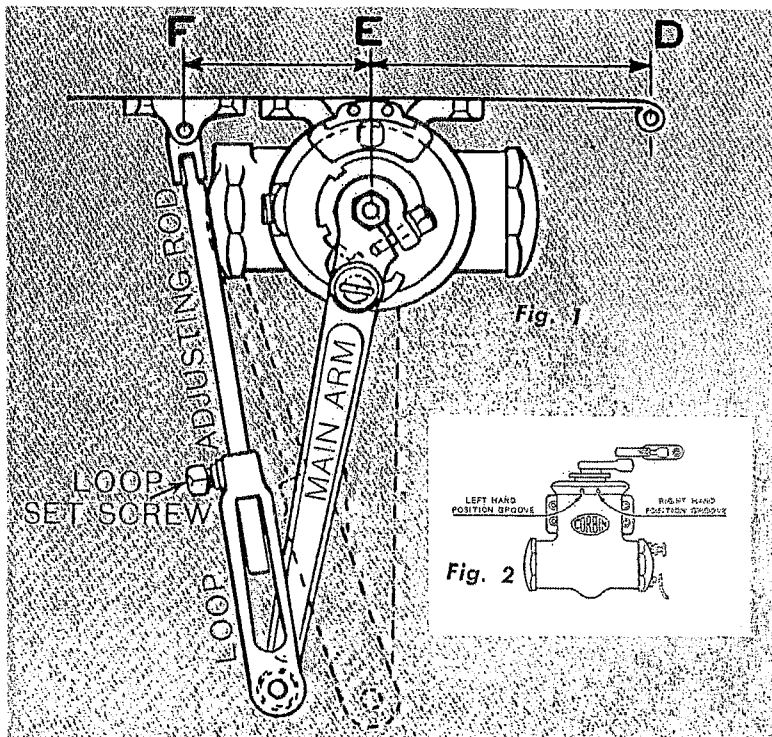
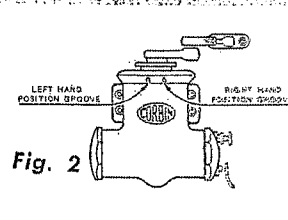

Fig. 1
Fig. 2
It is extremely important that door closers be applied correctly. When adjusting arms, be sure they form a perfect V with door as shown by solid lines (Fig. 1). This is accomplished by inserting Adjusting Arm into Loop and centering Main Arm directly over Proper Position Groove on cover (Fig. 2). *Never* set Main Arm at right angle with door or Adjusting Arm at right angle with frame as shown by dotted lines.
On closers with parallel arms, be sure they form a perfect V with casing (Fig. 1). Always center Main Arm over Proper Position Groove on cover (Fig. 2). Tighten Set Screw securely.
If the door is required to close more slowly, turn knurled Screw (A) Fig. 1 (at end of valve) clockwise. This is the SPEED CONTROL. If required to close faster, turn counter-clockwise.
This adjustment will regulate the speed of the door to within about 3 inches of the jamb. If door does not latch properly after this adjustment has been made, the Latch Valve (B) must be regulated. This valve is used to obtain either quiet closing at the jamb or a quick release to overcome undue resistance at the latch. To obtain quiet closing, turn Knurled Nut of Latch Valve (B—Fig. 1) clockwise; for quick release to overcome latch resistance turn counter-clockwise. If speed of door has been changed by this adjustment, readjust Thumb Screw (A) according to directions in first paragraph.